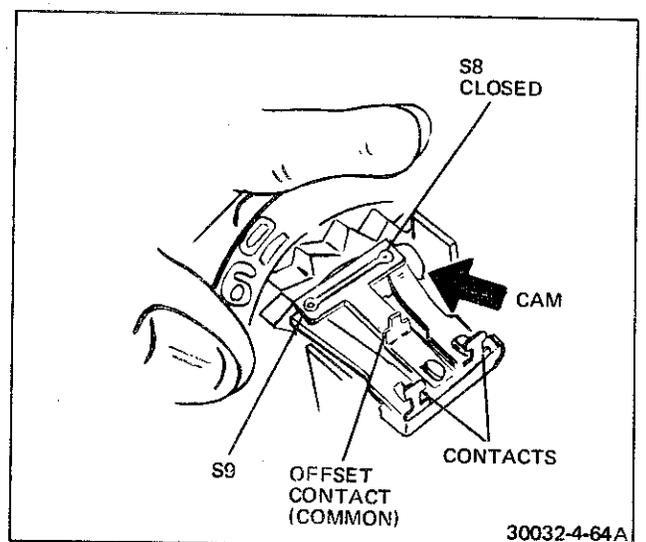

FIGURE 4-64A NEW COUNTER DETAILS
*NOTE: New counter, part no. 705863 assures better S8/S9 operation (Fig. 4-64A). Observe the 3 contact points. To be compatible, the flex circuit holes must mate with the offset contacts. New counter contacts are closed by a cam molded on the counter wheel. The drawing shows S8 closed in preparation for film insertion. When the wheel rotates to the '0' position, the same cam will close S9.*